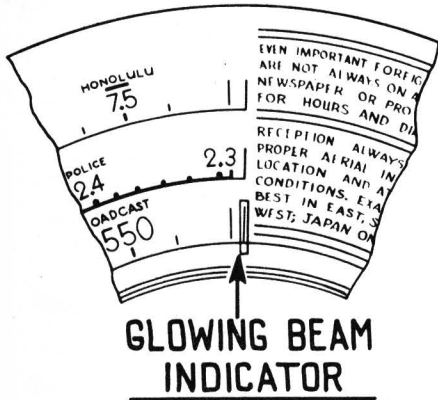

Fig. 5—Dial Calibration
**DIAL CALIBRATION**—In order to adjust this receiver correctly, the dial must be aligned to track properly with the tuning condenser. To do this, rotate the tuning condenser control to the extreme counter-clockwise position (maximum capacity). Loosen the screw of dial hub, then turn dial until the glowing indicator is centered on the first index line of dial scale (see Fig. 5). Now tighten the dial hub set screw in this position.